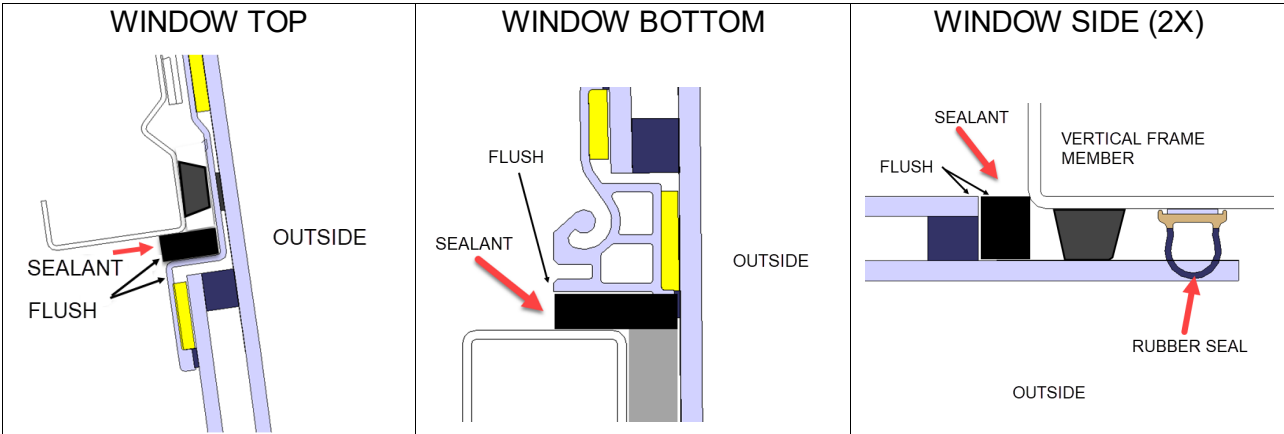

FIGURE 25
22. Remove sealant in excess using putty knife/scrapper. Smooth down (FIGURE 25) the joint with finger or using clean clothes soaked with water or soapy water. The sealant bead must be fully filled, uniformly applied, flush with the thermos surface. Clean sealant in excess using silicone remover (anti-silicone).